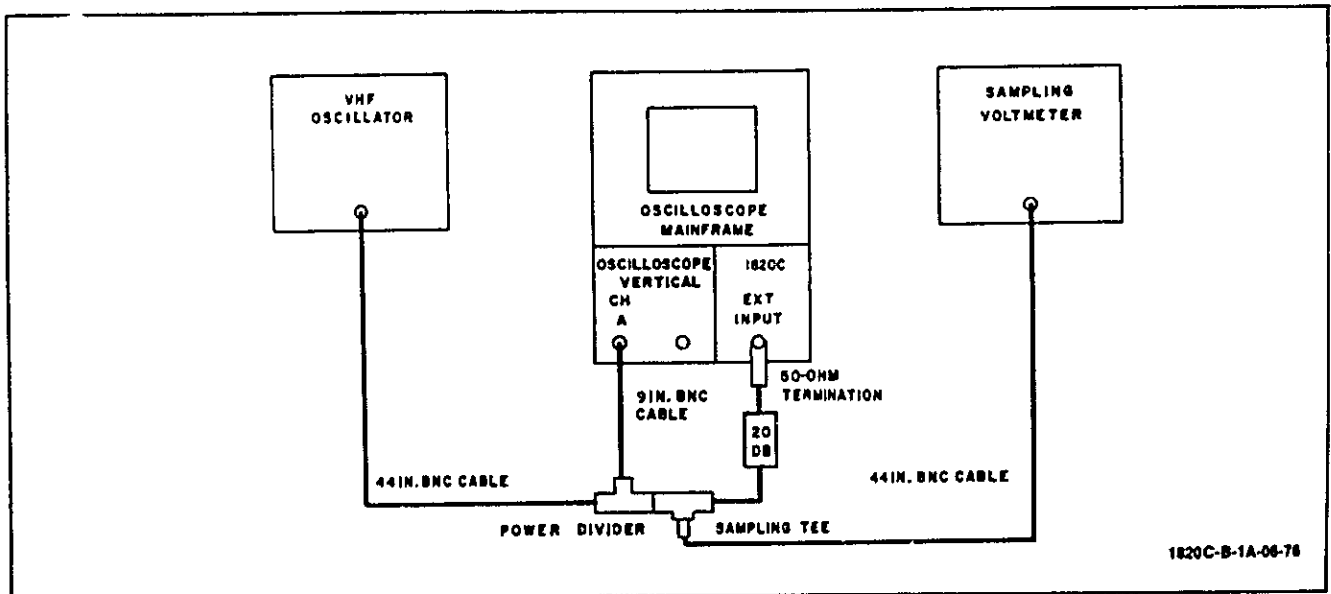

Figure 5-3. High Frequency Triggering Test Setup
5-37. EQUIPMENT. See figure 5-3 for equipment required.
- a. Connect equipment as shown in figure 5-3.